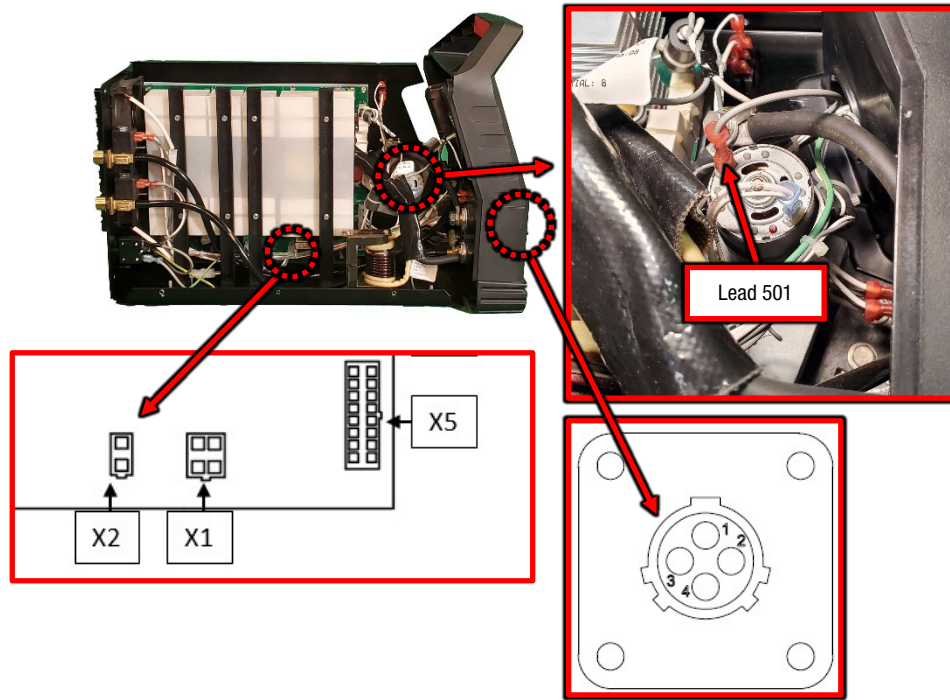

Figure F.2
A.1. Ensure the machine is off, not plugged in or connected to external power and set to MIG or SPOOLGUN Mode as directed. Label and disconnect the X2 connector, refer to Figure F.2.
A.2. Perform the static measurements in Test Table 1, refer to Figure F.2 for test point locations.